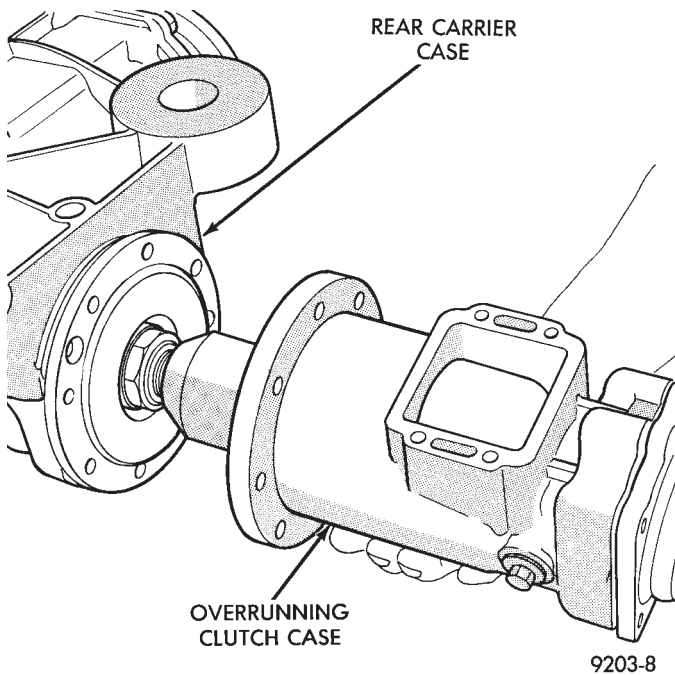

Fig. 7 Separate Rear Carrier Case from Overrunning Clutch Case
(5) Separate the overrunning clutch case from the rear carrier case (Fig. 7).